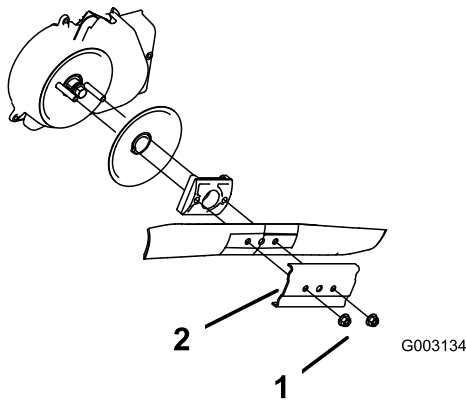

Figure 43
3. Remove the 2 blade nuts and the stiffener (Figure 43).
4. Remove the blade (Figure 43).
5. Remove the blade driver and the disk (Figure 43).
6. Remove the blade brake-clutch shield (Figure 43).
10. Install the blade and the stiffener that you previously removed (Figure 43).